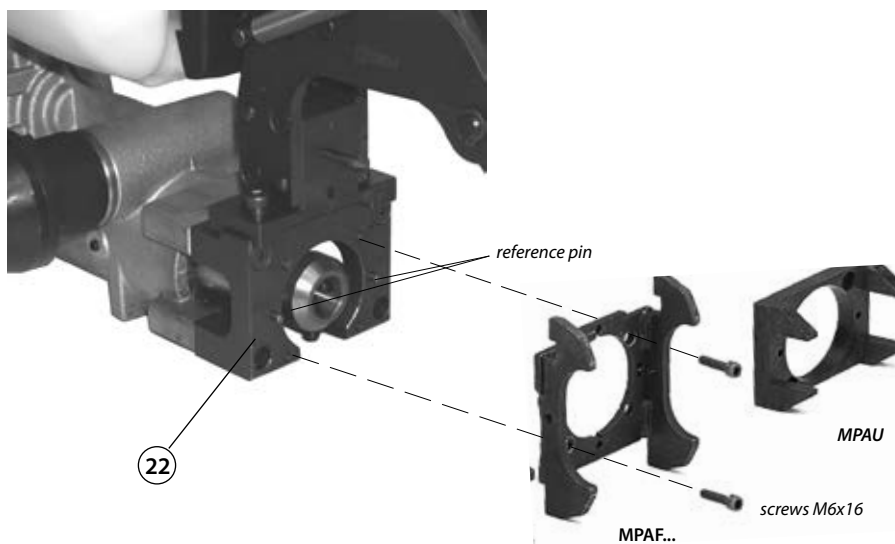

FIG. 15 – ASSEMBLY OF TEMPLATES
7.3) Assembly of positioning templates (Ref. to Fig. 15)